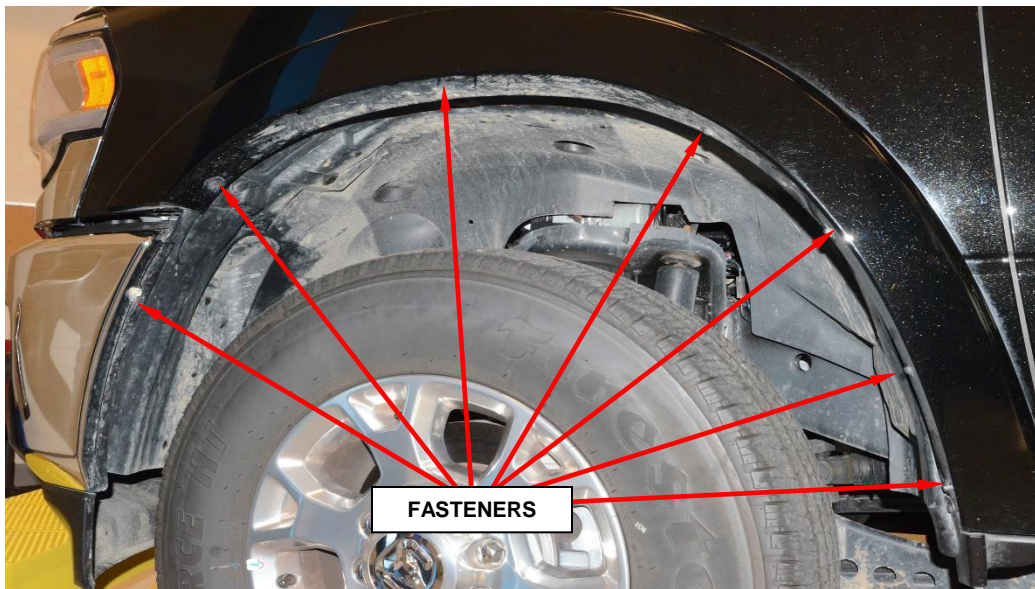

Figure 3 – Wheel Well Liner
13. Remove the left inner wheel well liner (Figure 3).